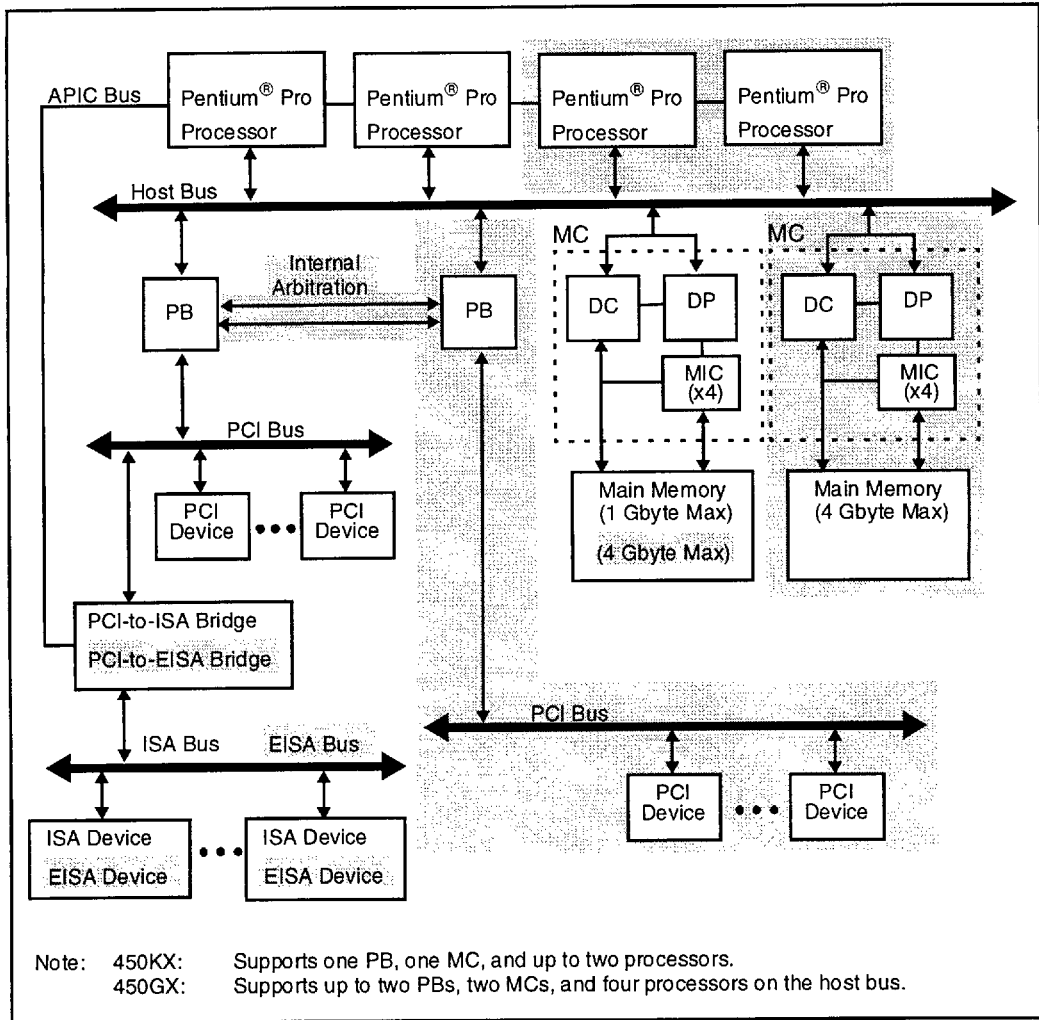

Figure 1. 450KX/GX Simplified System Block Diagram
The 450KX desktop PCIsset consists of the 82454KX PCI Bridge (PB) and the Memory Controller (MC). The MC consists of the 82453KX DRAM Controller (DC), the 82452KX Data Path (DP), and four 82451KX Memory Interface Components (MIC). The system configuration using the Intel 450KX PCIsset supports one PB, one MC and up to two Pentium Pro processors (Figure 1). An ISA subsystem is also located below the PB. For Pentium Pro processor bus error detection, the 450KX generates and checks parity over the address and request/response signal lines. This feature can be enabled/disabled during system configuration.